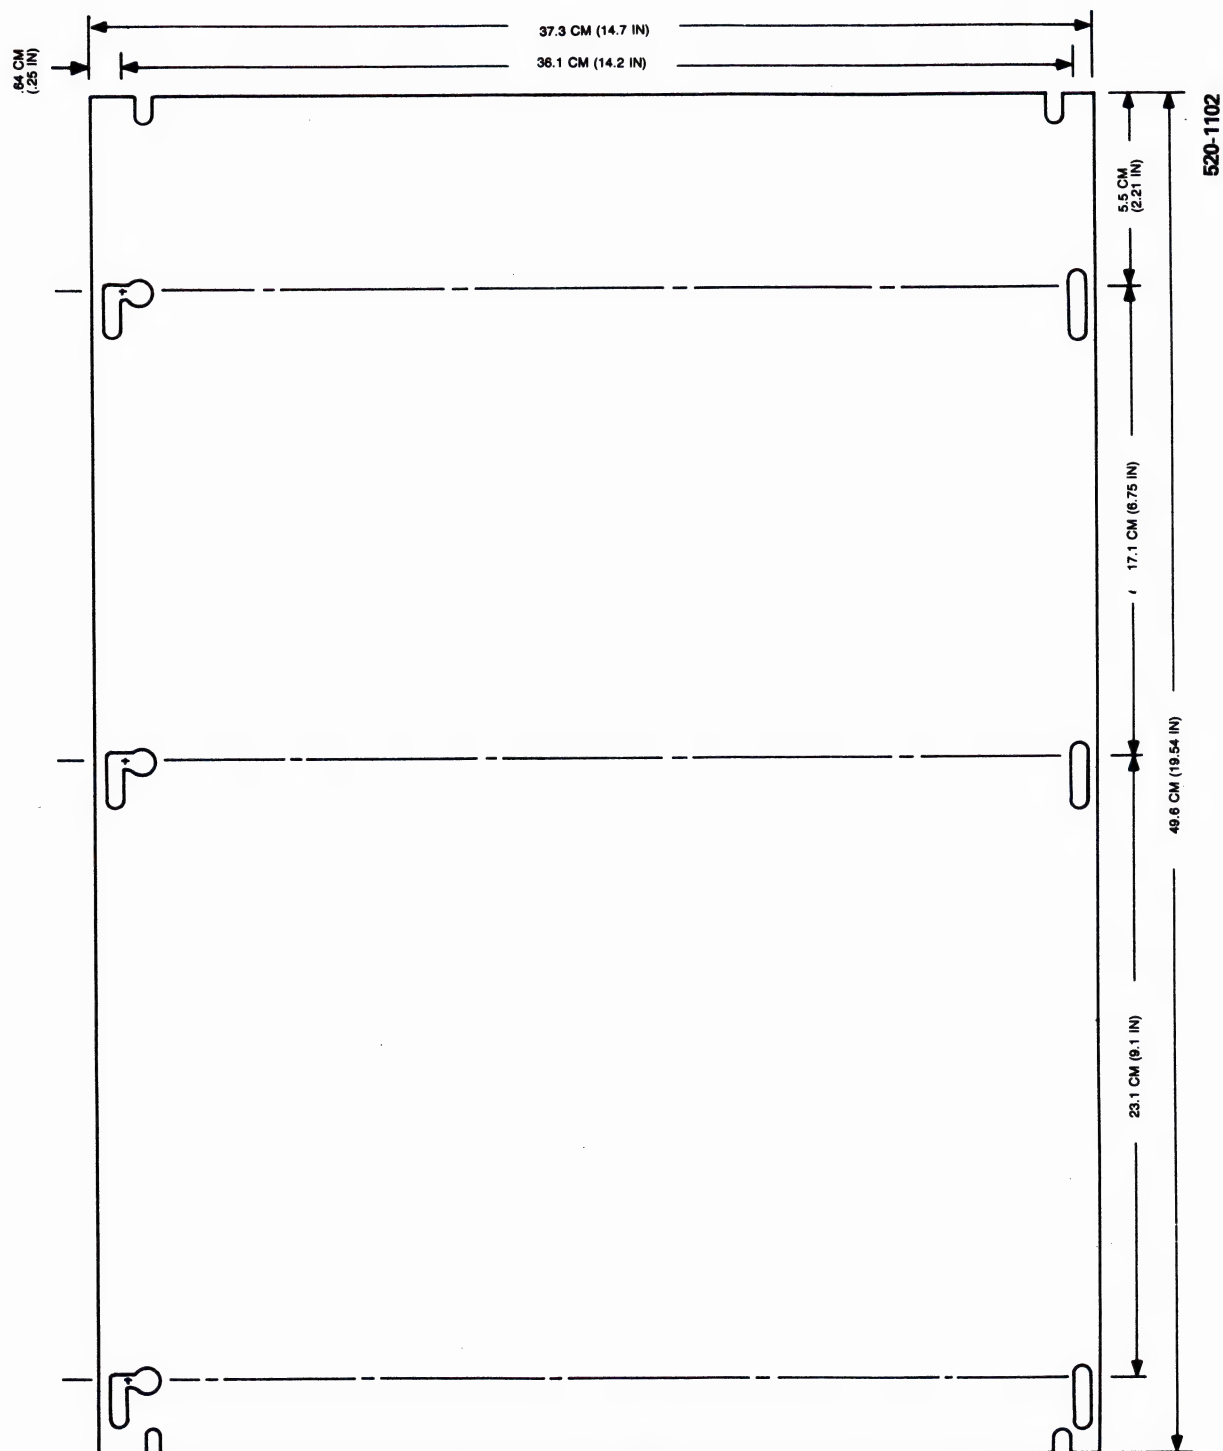

Figure 7-11 Mounting Dimensions for Model 500-5848 Base Assembly
2. Locate the mounting screw positions where the inside mounting screws (nearest the top latches of the base assembly) are 12.45 cm (4.9 in.) to 12.95 cm (5.1 in.) apart (see Figure 7-11).